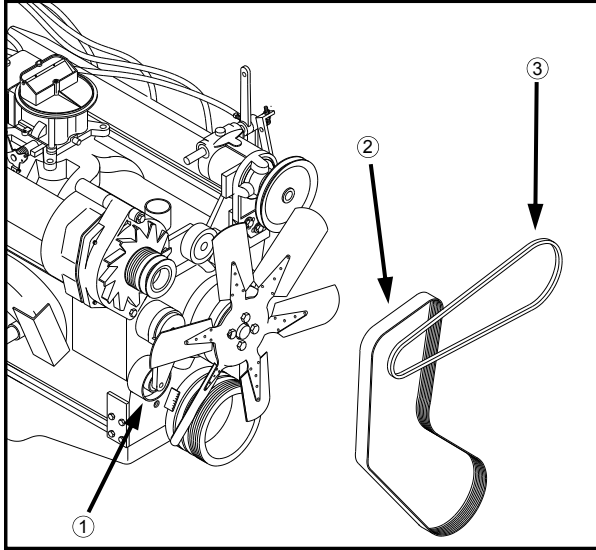

FIG 7.56
REMOVAL – Insert a 3/8 inch square ratchet drive into the belt tensioner (fig. 7.56, item 1) and push inward to remove the belt (fig. 7.56, item 2).
Visually inspect the belt daily (fig. 7.56, item 3). Replace if it becomes cracked or worn.